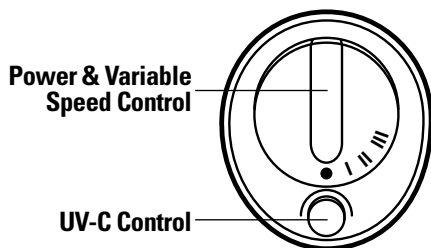

Figure 2
4. Select UV-C ON or OFF using UV-C Power Button (Figure 2).